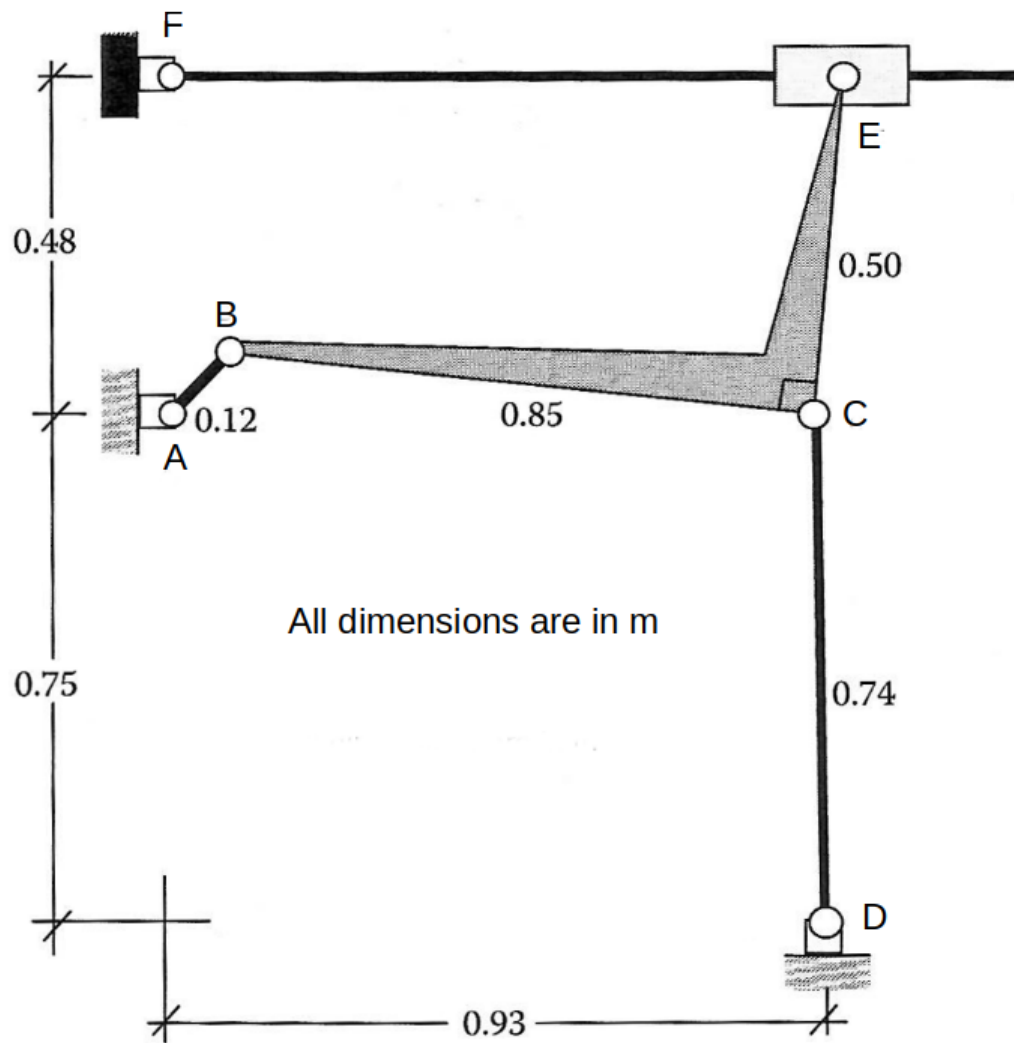

Figure 1:
1. Figure 1 shows a six-bar mechanism, with all required dimensions marked in the figure. Establish that the loop involving $ABCD$ corresponds to a Grashof mechanism. For one full rotation of the crank AB plot the displacement, velocity and acceleration of E , given that AB rotates clockwise at a constant rate of 300 rpm. Also plot the angular position, velocity and acceleration of link EF . You can modify or use the code you had written earlier for kinematically driven systems. **You should justify why you think the computational results are correct.**